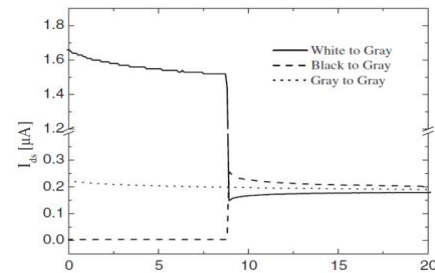

Figure 20. Simulation and test of hysteresis
- Take an example as figure 20, we simulate in the device through changing the display mode. White to Gray mode equals to reverse sweep while Black to Gray mode equals to forward sweep.